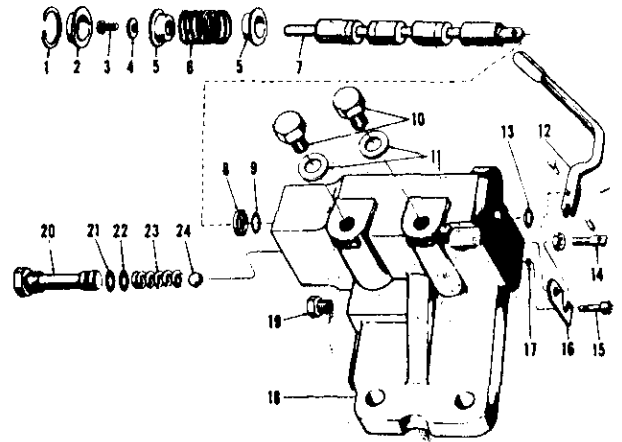
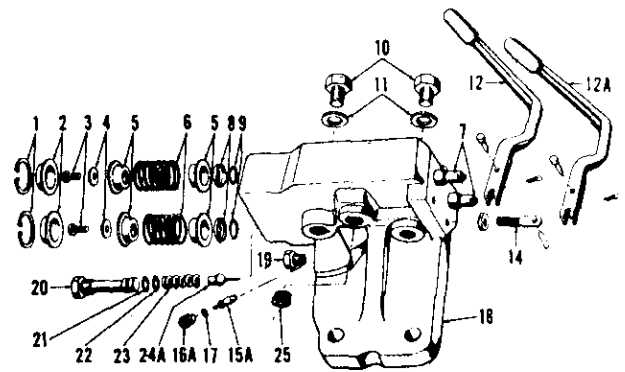

Fig. 425—Exploded view of single spool remote control valve without spool detent mechanism.
Fig. 426—Exploded view of two spool remote control valve without spool detent mechanism. Valve spools (7) are not shown removed; refer to (7—Fig. 425).
Single spool or double spool remote control valves, with or without detents, have been used on the model 2000, 3000 and 4000 tractors. Refer to Fig. 425 for an exploded view of the single spool, no detent valve, and to Fig. 426 for double spool, no detent valve, used prior to production date 5-70 (8-70 double spool).
370. Exploded views of the single spool and double spool remote control valves without spool detent are shown in Figs. 425 and 426. Either valve can be used with single or double acting remote cylinders. On single spool valve, open (turn out) the switch valve (15—Fig. 425) to operate a single acting remote cylinder from "LIFT" port of valve. On the double spool valve, back the Allen head screw (16A—Fig. 426) out two or three turns to operate a single acting cylinder from the "No. 1 LIFT" port. The valve levers must be held in raising or lowering position as the valve spools do not have detents. If valve is held open after cylinder reaches end of stroke, the tractor hydraulic system relief valve will open at approximately 2500 pounds pressure.
373. CONTROL VALVE SPOOLS, CENTERING SPRINGS AND SEALS. Remove the control levers by removing the clevis pins retaining lever to valve spools, then pull levers from pivot pins in the adjusting screws (14—Fig. 425 or 426). Remove the snap rings (1) that retain centering spring caps (2), then push or tap on rear (lever) end of valve spools to remove the valves (7), centering spring (6) assemblies and caps from front end of valve body. NOTE: On double spool control valves, be sure to tag the valve spools as they are removed as each valve is a select fit and not interchangeable. Remove screws (3) from ends of valve spools to remove centering springs (6), spring cups (5) and washers (4). Using a slide hammer with small internal pulling attachment (Nuday tool No. 7600-E or equivalent), remove the seal retainers (8) from valve bores. Remove the "O" rings (9 and 13) from valve spool bores.
To reassemble, proceed as follows: Lubricate the control valve spools and insert them into front (centering spring) end of valve body. Push the spools rearward so that rear ends are even with the "O" ring groove in valve body. Lubricate the "O" rings (13—Fig. 426) and using rear ends of valve spools as "back stops," insert the "O" rings in grooves in valve bores. Push the spools on through the "O" rings so that they extend about 3/4-inch from rear of valve body. Lubricate the front "O" rings and push them into bore around the front ends of valves, then install the retainers (8) using a special driver (Nuday tool No. N-651 or equivalent). Reinstall the centering springs and caps, flat washers, retaining screws, caps, snap rings and control valve levers.
adjusting screw (14—Fig. 425) and swing the retainer (16) out of way. Then, using an Allen wrench, unscrew the switch valve (15) from valve body. Remove and discard the "O" ring (17). Renew the switch valve if excessively pitted or distorted. Install and lubricate new "O" ring, then screw valve into valve body. Move the retainer into position and tighten adjusting screw lock nut while holding adjusting screw square with control lever.
375. DOUBLE SPOOL SWITCH VALVE. Using an Allen wrench, remove the set screw (16A—Fig. 426). Then, using needle nose pliers, pull the valve (15A) from valve body; remove
376: CHECK VALVE. To remove the check valve ball (24—Fig. 425) on single spool valve or the check valve poppet (24A—Fig. 426) on double spool valve, unscrew the plug (20) and remove spring (23) and ball or poppet. Remove the sealing "O" rings (21 and 22) from plug. Renew the ball or poppet valve if damaged in any way and renew the spring if free length is not equal to that of new spring.